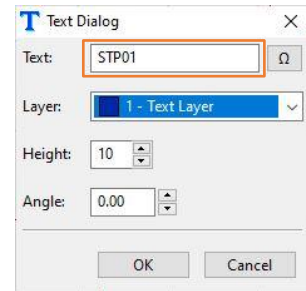

Figure 65
(1) Add labels using the text tool:
- Enter the label text “STP01” in the text entry of the appearing Text Dialog (Figure 65).